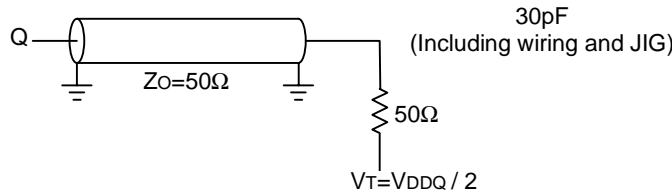

Fig.1 Output load
(1) MEASUREMENT CONDITION
- Output load Fig.1
Note25.Test conditions is specified with the output loading shown in Fig.1 unless otherwise noted.